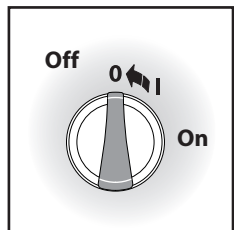

Fig.22
- When your pressure washing session has been completed, supply and pull the trigger until water flow stops and then turn the power switch located on the back of the pressure washer. (Fig.22) To prevent damage to the pressure washer's motor and/or pump. Do not allow the power washer to run with no water flowing through it.